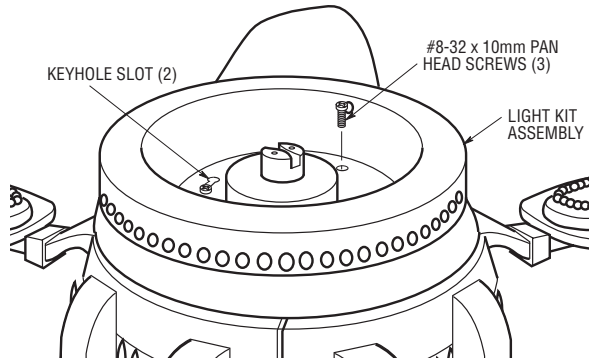

Figure 4
- 10. Attach the light kit assembly to the switch housing using the three #8-32 x 10mm pan head screws (supplied). Do not tighten screws at this time. Position the light kit assembly onto the switch housing, making sure all wires are not pinched (Figure 4).
- 11. Rotate the light kit assembly clockwise to engage the keyhole slots. Secure all three screws at this time (Figure 4).